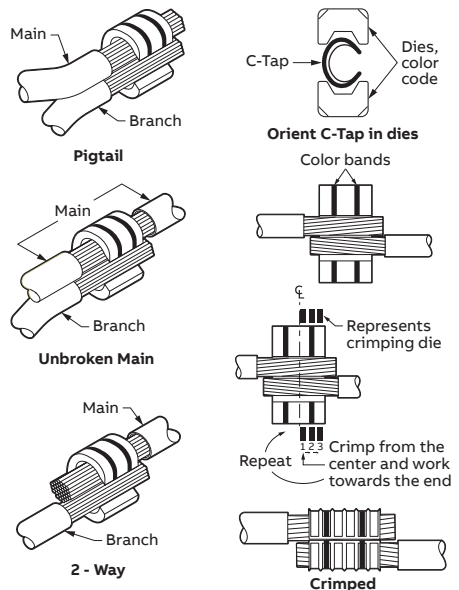

Figure 2
4. Place C-Tap over main cable and branch cable. (Figure 2) for typical applications.